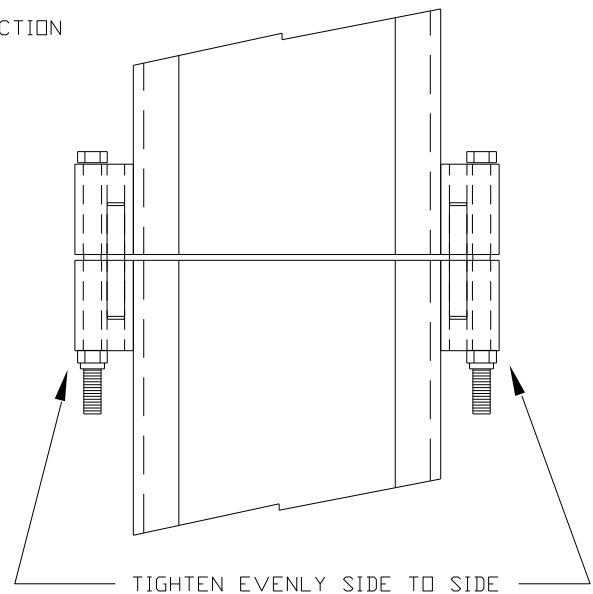

FIG. 2
5. TIGHTEN THE STOVER NUTS DOWN EVENLY ALTERNATING FROM SIDE TO SIDE. (FIG. 2)